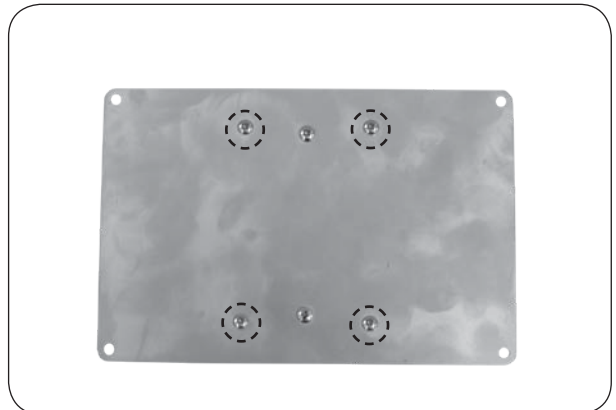

Fig. 39-3 Remove 4 small screws
4. Remove the 4 small screws found on the cover of the power supply box (see Fig. 39-3).